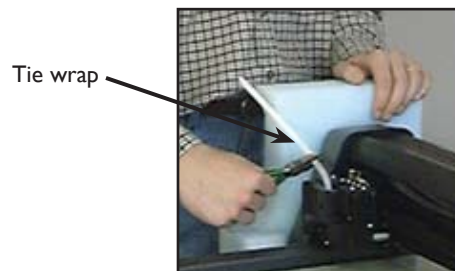

Figure 2. (Left) remove the shipping screws from the **Table** and (right) cut the shipping tie wrap holding the **carriage**.
4. Cut the tie wrap that hold the carriage in place and remove all the packing material. (See **Figure 2**.)